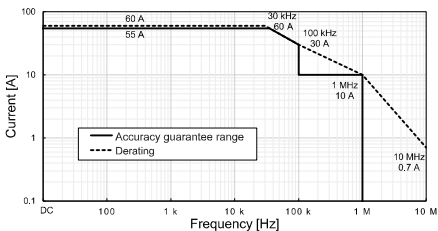

Figure 1. Frequency Derating (at 0°C to 40°C)
Maximum input current	Not exceeding derating curve (See Figure 1.) However, a current of up to ±200 A peak (design value) is allowable for up to 20 ms.
- Amplitude accuracy and phase accuracy are defined within the accuracy guarantee range shown in Figure 1, "Frequency Derating." However, design values are given for DC < f < 10 Hz.